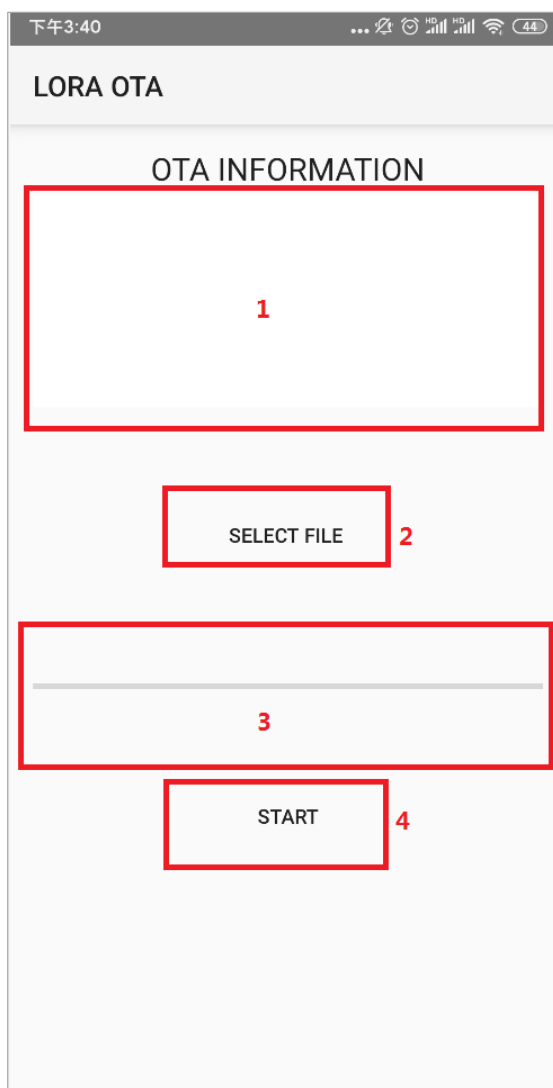

Figure 2-2 Main interface
After connecting the mobile phone and OTA dongle with a USB adapter, open the APP and the interface will be as shown in Figure 2-2:
The annotations in Figure 2-2 are explained as follows:
(1) Click the "SELECT FILE" button in Figure 2-2, and the following interface will appear: